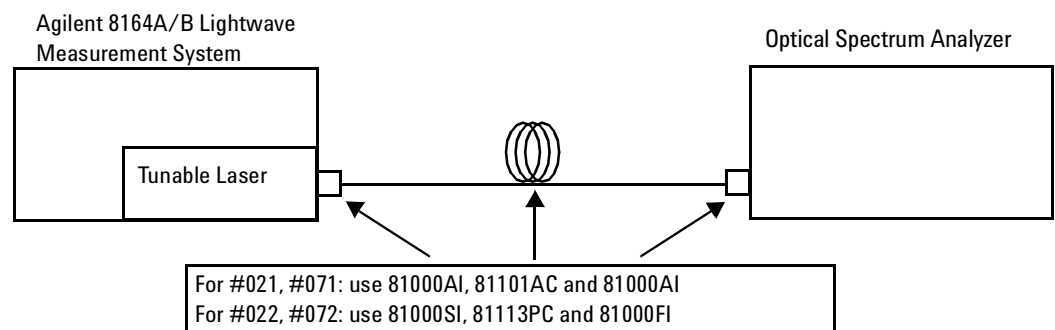

Figure 13 Test Setup for the Source Spontaneous Emission Test - High Power Outputs
- 1 Connect the Tunable Laser module to the Optical Spectrum Analyzer as shown in Figure 13.